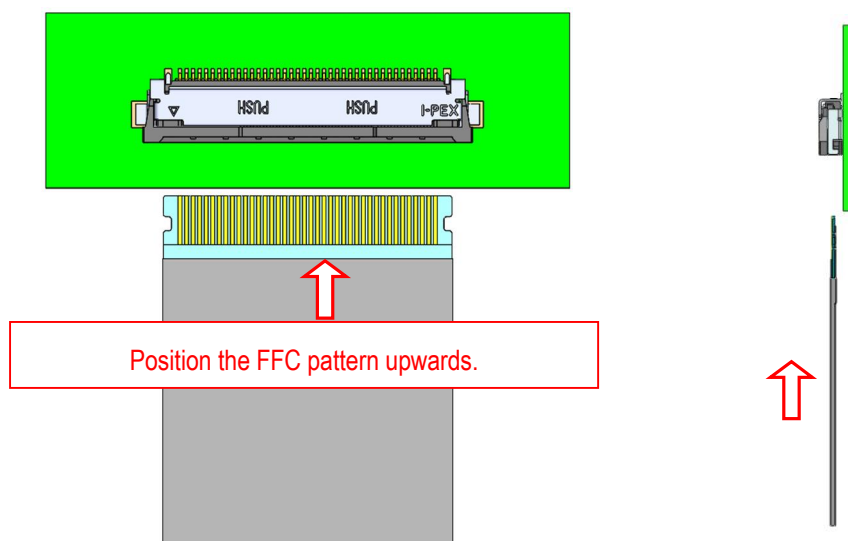

Fig.3-1 FFC Inserting Method 1
- ① Set the FFC to the connector horizontally as shown in Fig.3-1.